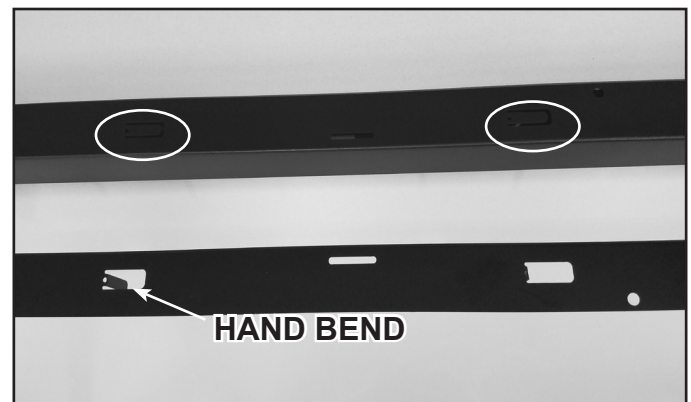

Figure 1 Back Plate Hand Bends
1. Locate hand bends on the vent back plate as shown in Figure 1. Use a screwdriver to bend them outward. The number of hand bends may vary by appliance size.